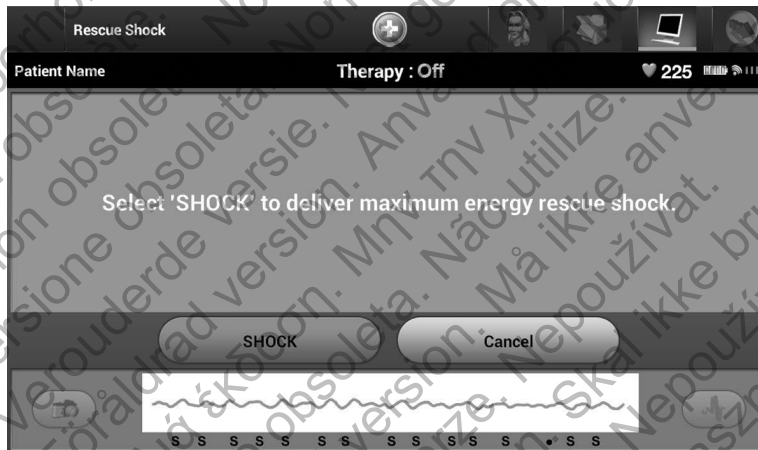

Figure 55: Rescue Shock screen
1. Select the red Rescue Shock Icon at the top of the programmer screen. The Rescue Shock screen appears (Figure 55).